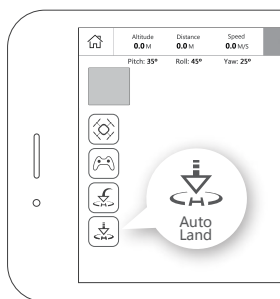

Figure 1
b) Auto Land: Tap the Auto Land icon and the aircraft will slowly descend to the ground. (Figure 1)